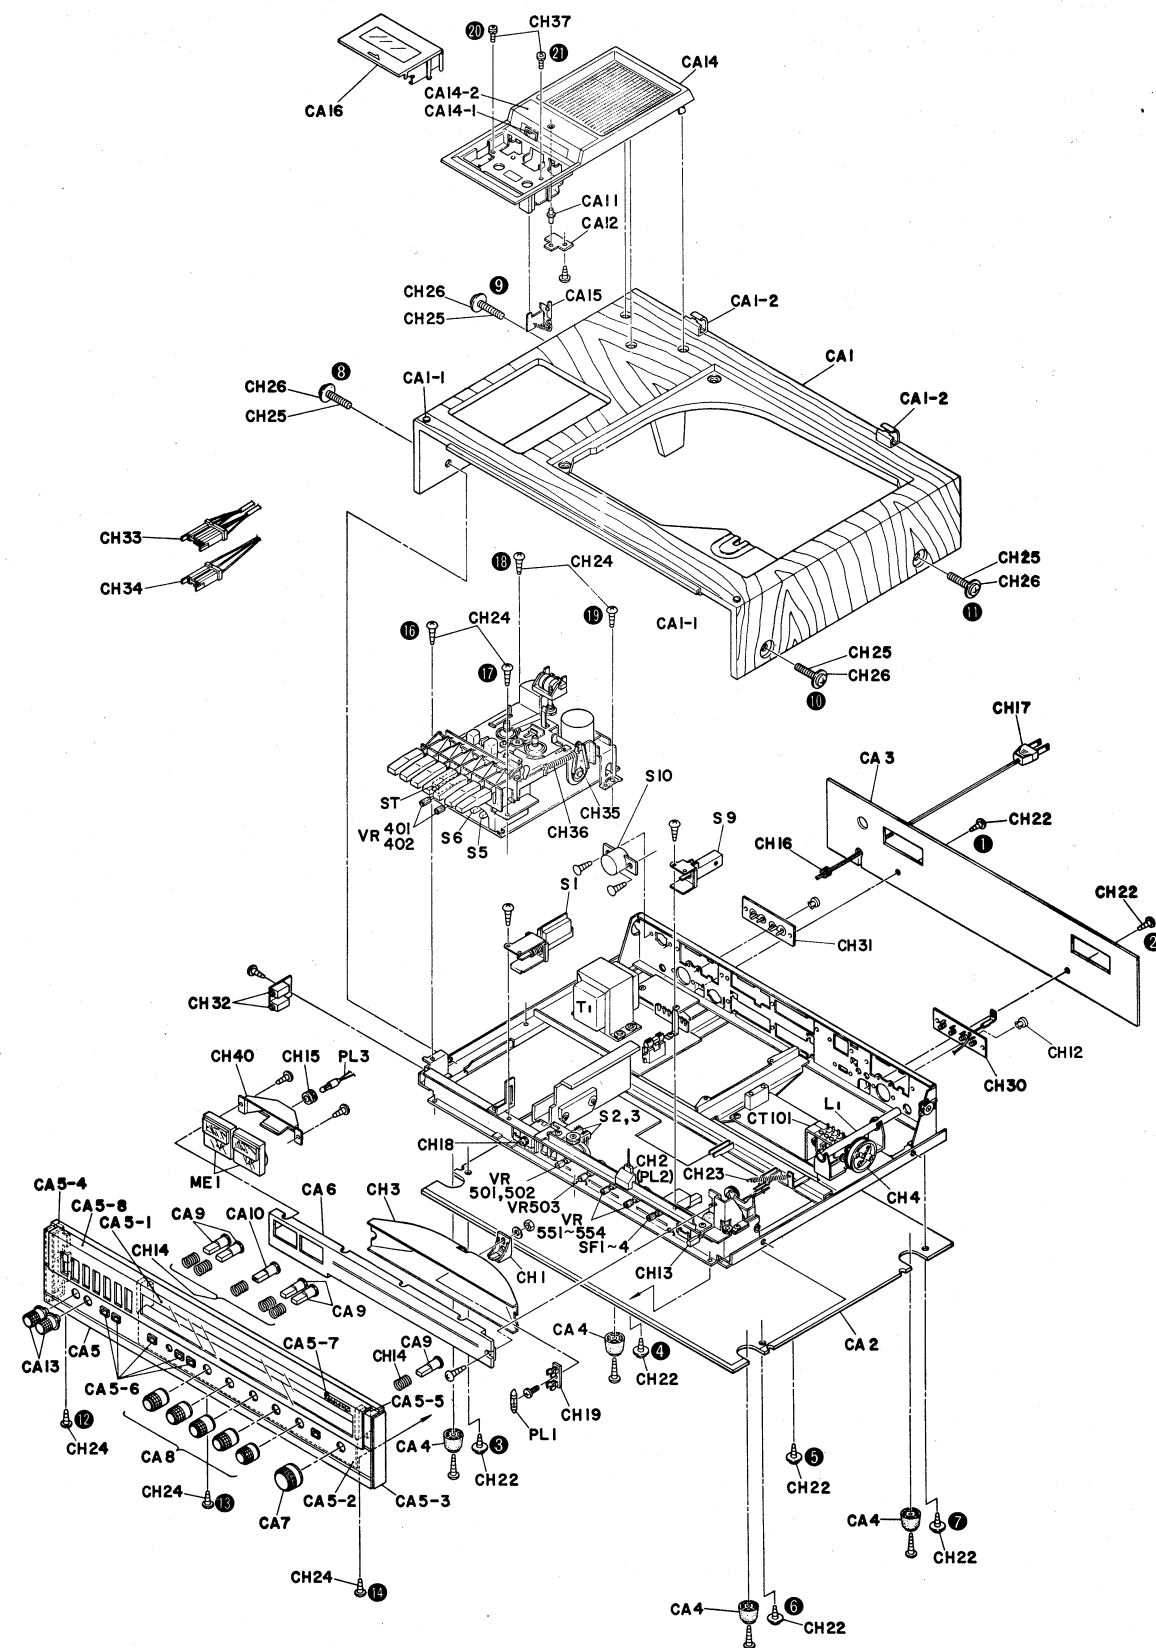

FIG. 3
1. Remove two (2) rear board mounting screws Nos. (1) ~ (2) as shown in Fig. 3.
2. Remove four (4) cabinet mounting screws Nos. (8) ~ (12), as shown in Fig. 3. Remove cabinet by sliding it toward rear. Remove two (2) cassette panel mounting screws Nos. (20) ~ (21), as shown in Fig. 3.
3. Remove five (5) bottom board mounting screws Nos. (3) ~ (7), as shown in Fig. 3. And four (4) cabinet mounting screws Nos. (8) ~ (11), as shown in Fig. 3.
2. Remove eight (8) knobs from front panel.
3. Remove three (3) escutcheon mounting screws Nos. (12) ~ (14), as shown in Fig. 3.
3. Remove four (4) cassette deck mounting screws Nos. (16) ~ (19), as shown in Fig. 3.